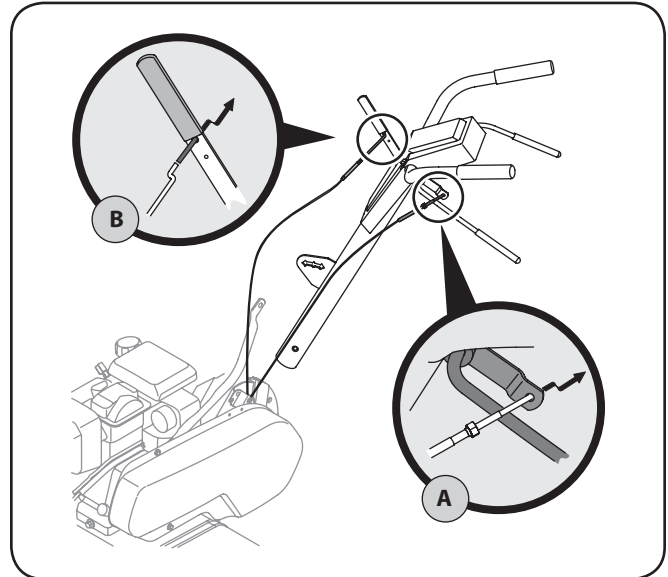

Figure 3-2
2. Hook the "Z" end of the forward clutch cable (A) into the forward tine engagement lever Fig. 3-2.
3. Hook the "Z" end of the reverse clutch cable (B) into the reverse tine engagement lever Fig. 3-2.